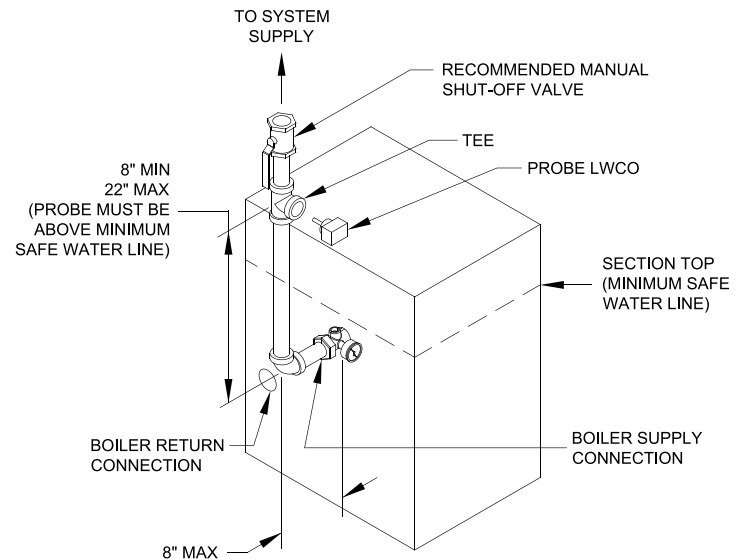

Figure 4: Recommended Probe LWCO Location
5. When constructing a piping tree to install LWCO select fittings (tees, elbows etc) and nipples to have the same size (NPT) as boiler supply connection. At minimum, 1-1/4" tee with 3/4" branch outlet is required to connect the probe LWCO to the supply piping. See Figure 4. **DO NOT REDUCE THE SIZE OF NEAR BOILER SUPPLY FITTINGS AND NIPPLES.**